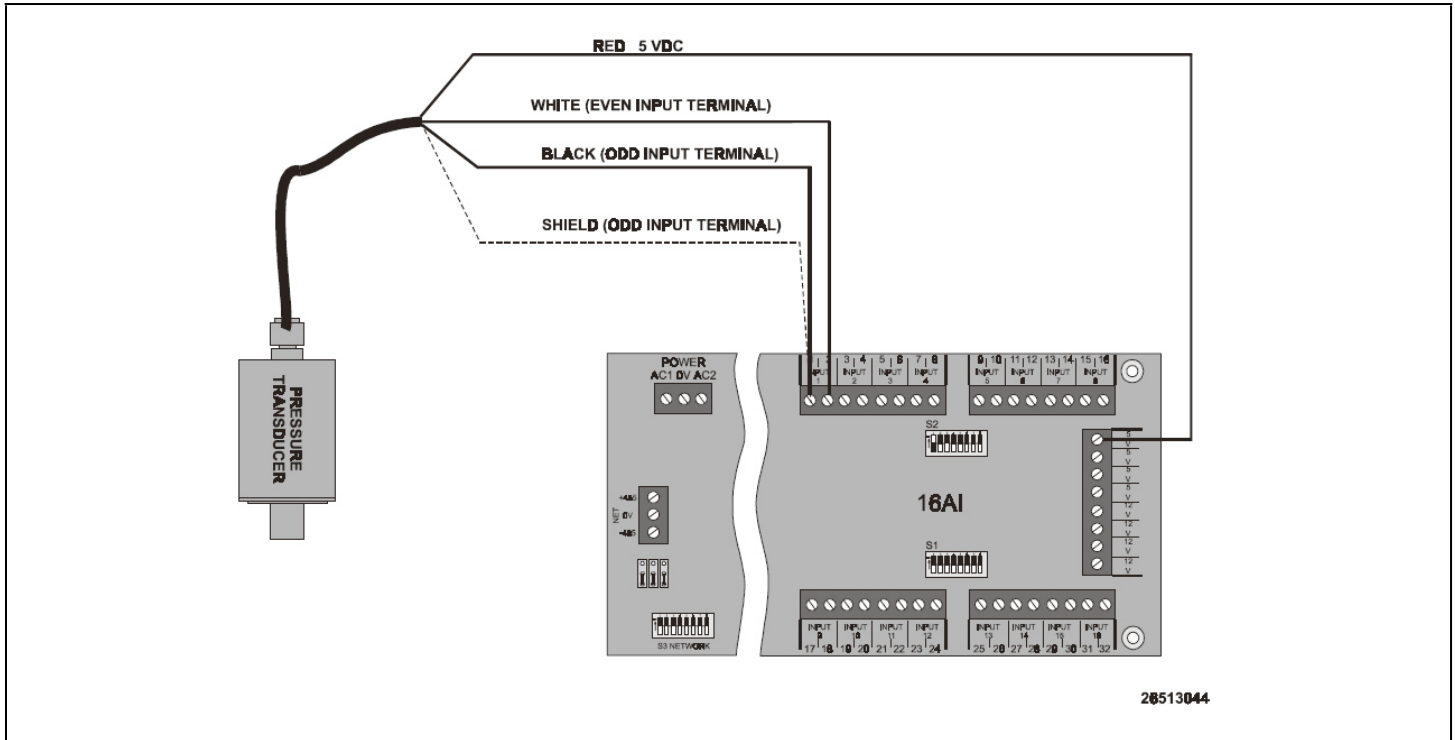

Figure 1 - Pressure Transducer Installation
4. Connect the cable harness wires to the 16AI or 16AIE board as shown in *Figure 1*. **If connection to the input board requires more than the 20' of wire included with the cable harness, use Belden #8771 (shielded, 3 conductor, 22AWG) or equivalent to extend the cable.**